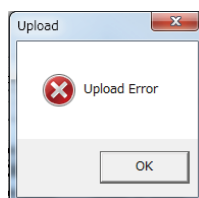

Figure 4.1c. Upload error message.
- >> If the uploading has failed, an error message box appears on the screen (Figure 4.1c).